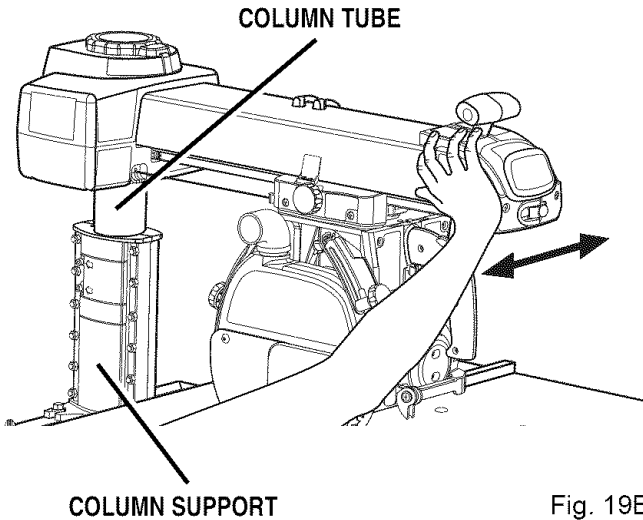

Fig. 19B
- **Rotation check:** To check the rotation, hold the front of the arm with one hand and grasp the top of the column support with the other. Press the arm to the side. If there is play between the column support and the column tube, it needs to be adjusted. See Figure 19B.